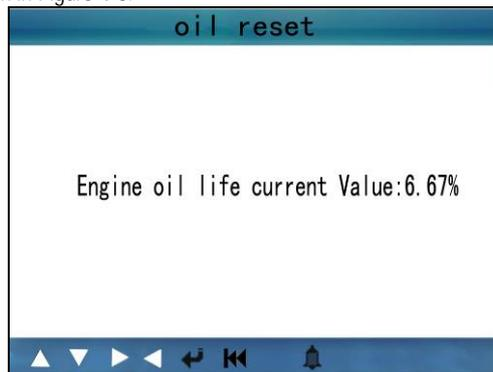

Figure 4-6
5) After communicating, "Engine oil life current Value" appears, as shown in Figure 4-6: